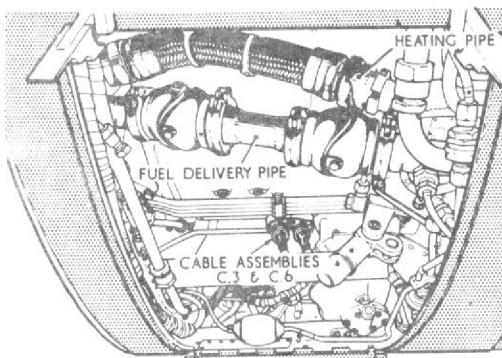

Fig. 7 Gearbox turret access door
**Gearbox turret access door (fig. 7)**
(2) Disconnect and stow the cable assemblies C.3 and C.6. Disconnect the fuel delivery pipe between, and including, the universal couplings. Remove the pipe from the aircraft. Disconnect the heating pipe.